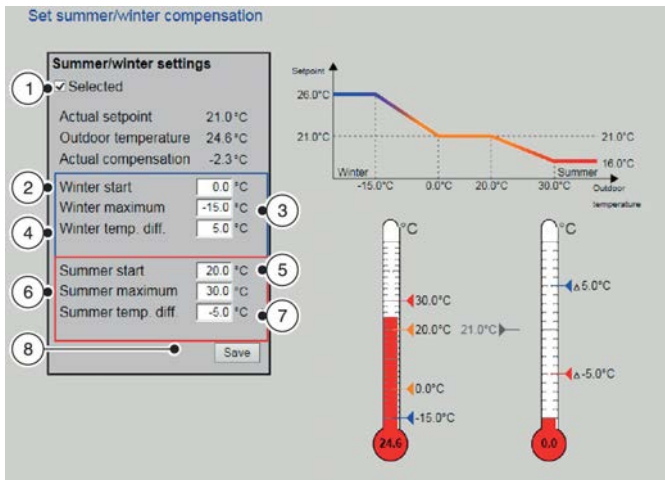

Fig. 35: Summer/winter compensation
The 'Set summer/winter compensation' screen (Fig. 35) allows you to set temperature compensation values for summer and winter.
- ▶ Tick the checkbox (Fig. 35/1) to activate summer/winter compensation.
- ▶ Enter the outdoor air temperature at which winter compensation shall start (Fig. 35/2).
- ▶ Enter the outdoor air temperature for maximum winter compensation (Fig. 35/3).
- ▶ Enter the maximum winter compensation value (Fig. 35/4).
- ▶ Enter the outdoor air temperature at which summer compensation shall start (Fig. 35/5).
- ▶ Enter the outdoor air temperature for maximum summer compensation (Fig. 35/6).
- ▶ Enter the maximum summer compensation value (Fig. 35/7).